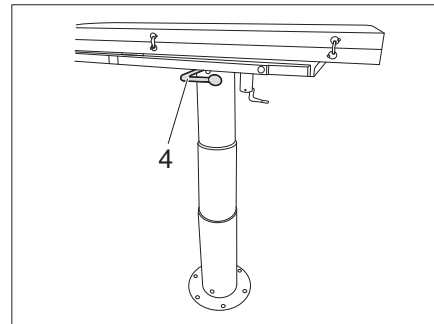

Fig. 107 Folding table, lowerable
- Release the lever (Fig. 107,4) for lowering the table and press the table down.